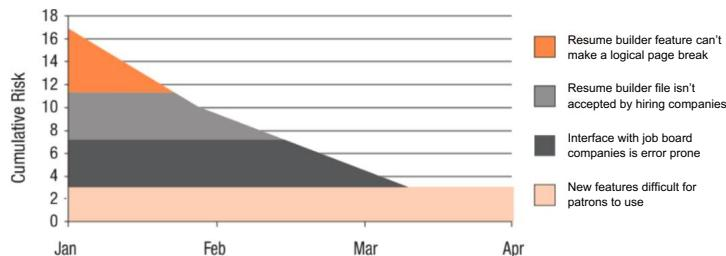

FIGURE 12.9 Risk burndown chart
- Risk burndown charts may be used for planning, managing, and controlling risk. These charts allow stakeholders to easily see a risk profile on a project. Risk burndown charts quickly inform stakeholders whether the threats are moving in the right direction (downward), or if they are escalating. See the example in figure 12.9 in which the project team is developing library software for patrons who are looking for jobs. Four risks have been identified.